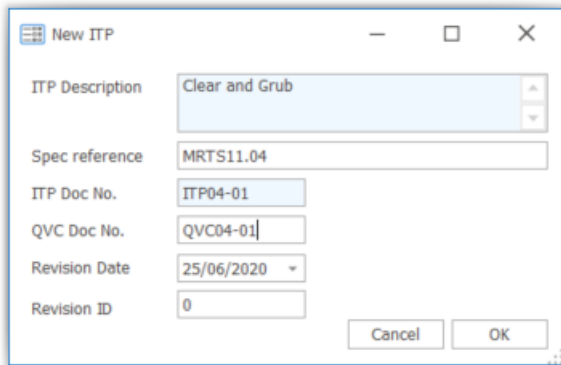

Figure 19 The New ITP Dialog
2. Type the ITP information from the training supplement in the New ITP dialog (Figure 19 below) and click *OK*. This creates the ITP record.